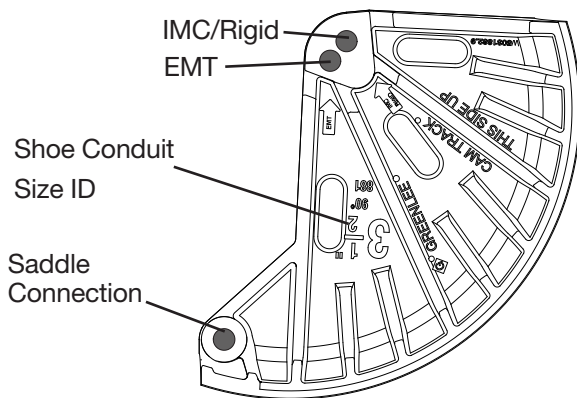

Figure 9
11. Arrange the shoe between the connecting forks so the saddle connection is to the left. Align the yoke with the EMT or IMC/Rigid connection on the shoe depending on the type of conduit to be bent. Insert yoke pin through the yoke and shoe until the toggles fully expand on the other side. (Fig. 9)